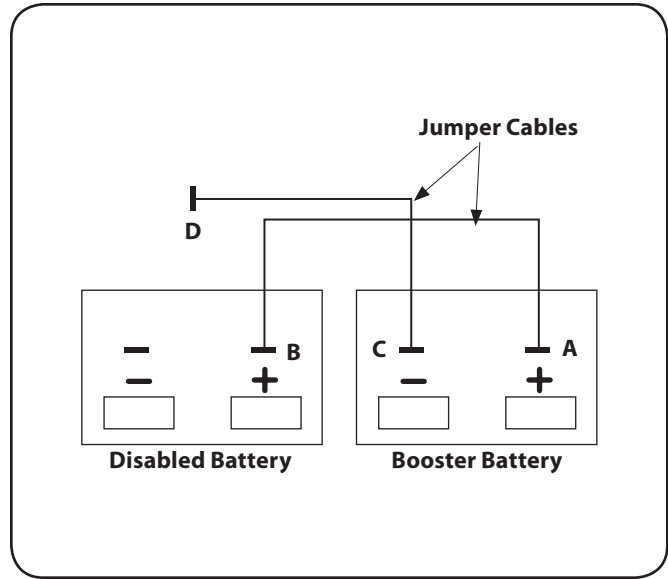

Figure 6-3
1. Connect positive (+) jumper cable to booster battery positive (+) post (A). See Fig. 6-3.